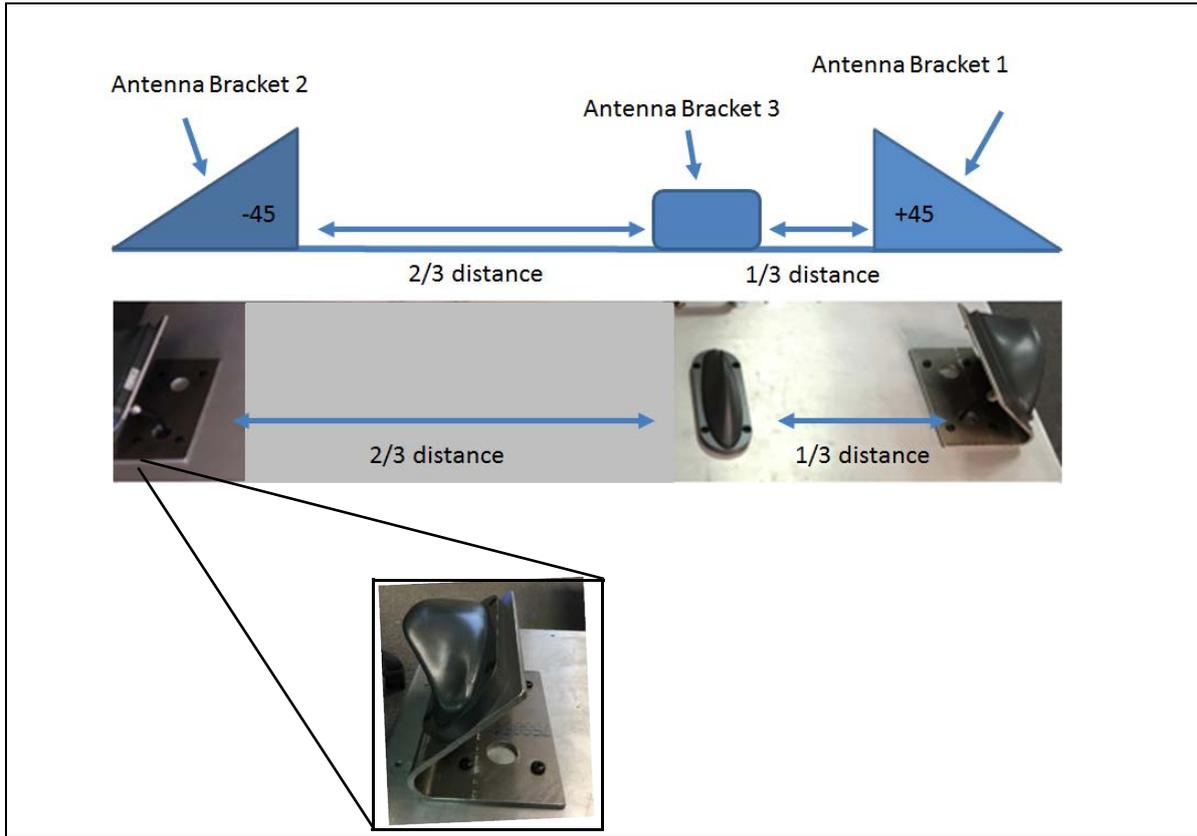

Figure 1-79: TMU antenna mounting configuration on roof
- Mount Antenna 1 and Antenna 2 on the edge of the locomotive at a 45° angle, as shown in Figure 1-79.
- Mount Antenna 3 (center) at a 90° angle (directly up) and one third of the distance between the right and left antennas as shown in Figure 1-79.